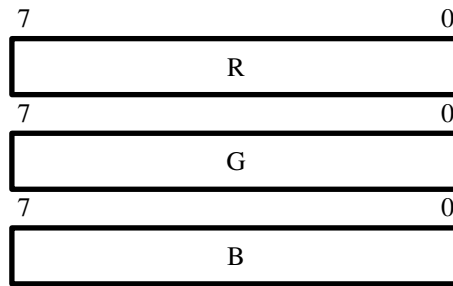

Figure 17. Bayer Pattern RGB Color Space.
- Bayer Pattern — This is a special case of the RGB color space where each pixel has a value for only one of the three colors. The pattern of the colors in the frame is shown in 16. Figure 17 shows to format of the bayer pattern data. This mode is defined as 8 bits per color and one color plane.